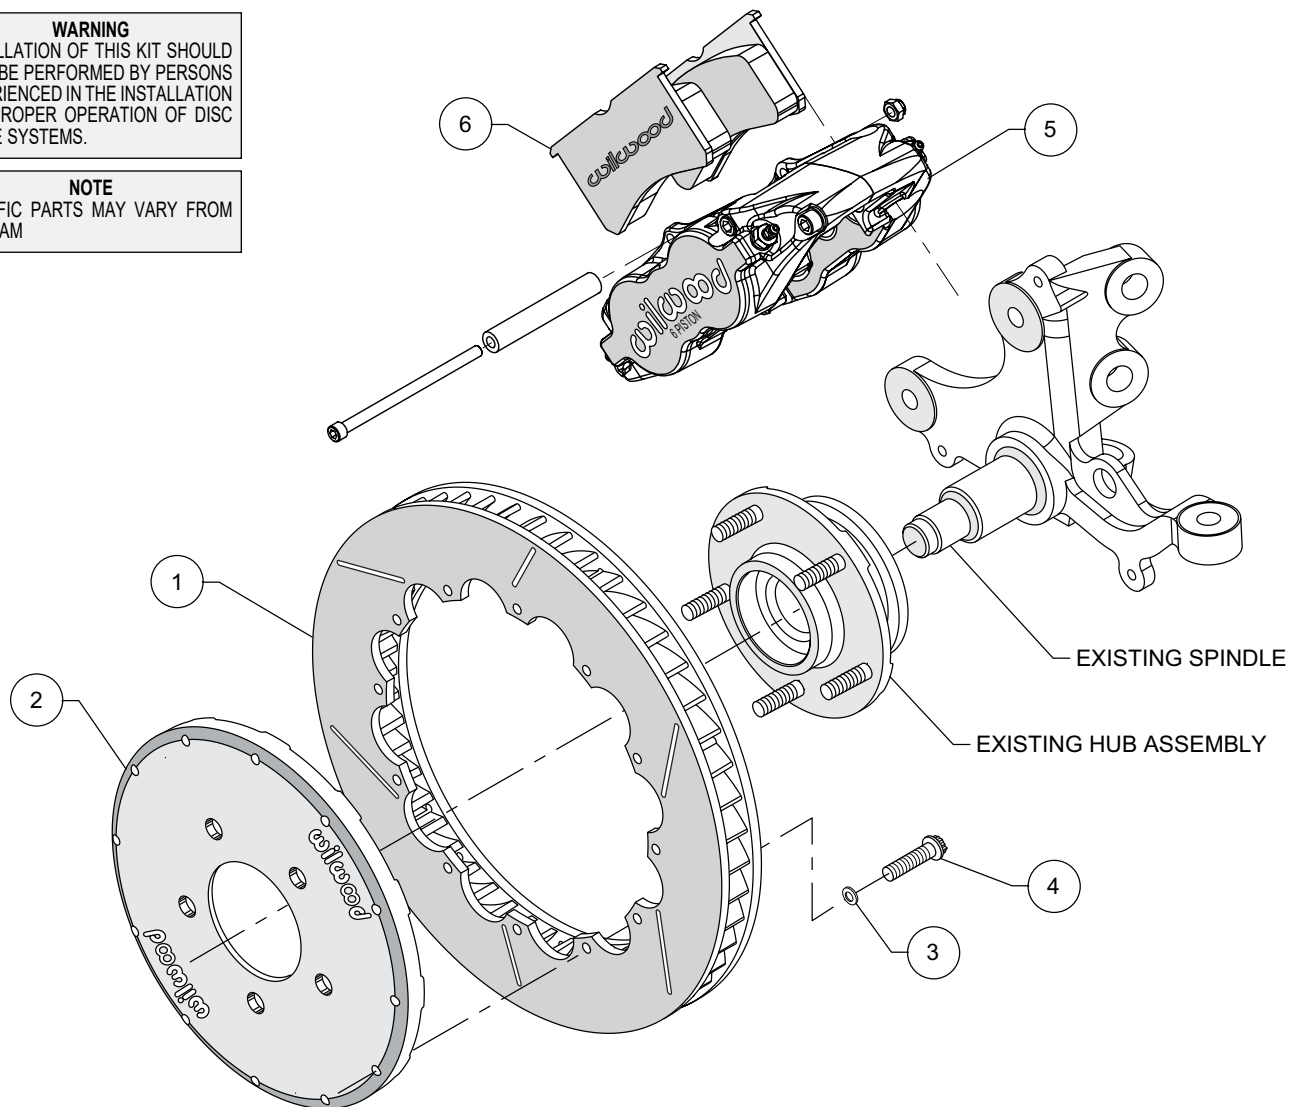
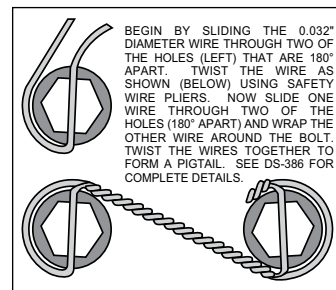

Figure 1. Typical Installation Configuration
Figure 3. Safety Wire Diagram
**NOTE:** Numbers in parenthesis refer to the parts list and Figure 1 on the preceding pages.
- Orient the rotor (1) and the hat (2) as shown in Figure 1 and Photo 1. Attach rotor to hat using bolts (4) and washers (3). Apply red *Loctite*® 271 to the bolt threads and torque to 155 **in-lb** using a criss-cross pattern. For an added measure of security, the bolts may be safety wired using standard 0.032 inch diameter stainless steel safety wire as shown in Figure 3. Please refer to Wilwood's data sheet DS-386 (available at [www.wilwood.com/Pdf/DataSheets/ds386.pdf](http://www.wilwood.com/Pdf/DataSheets/ds386.pdf)) for complete safety wire installation instructions.